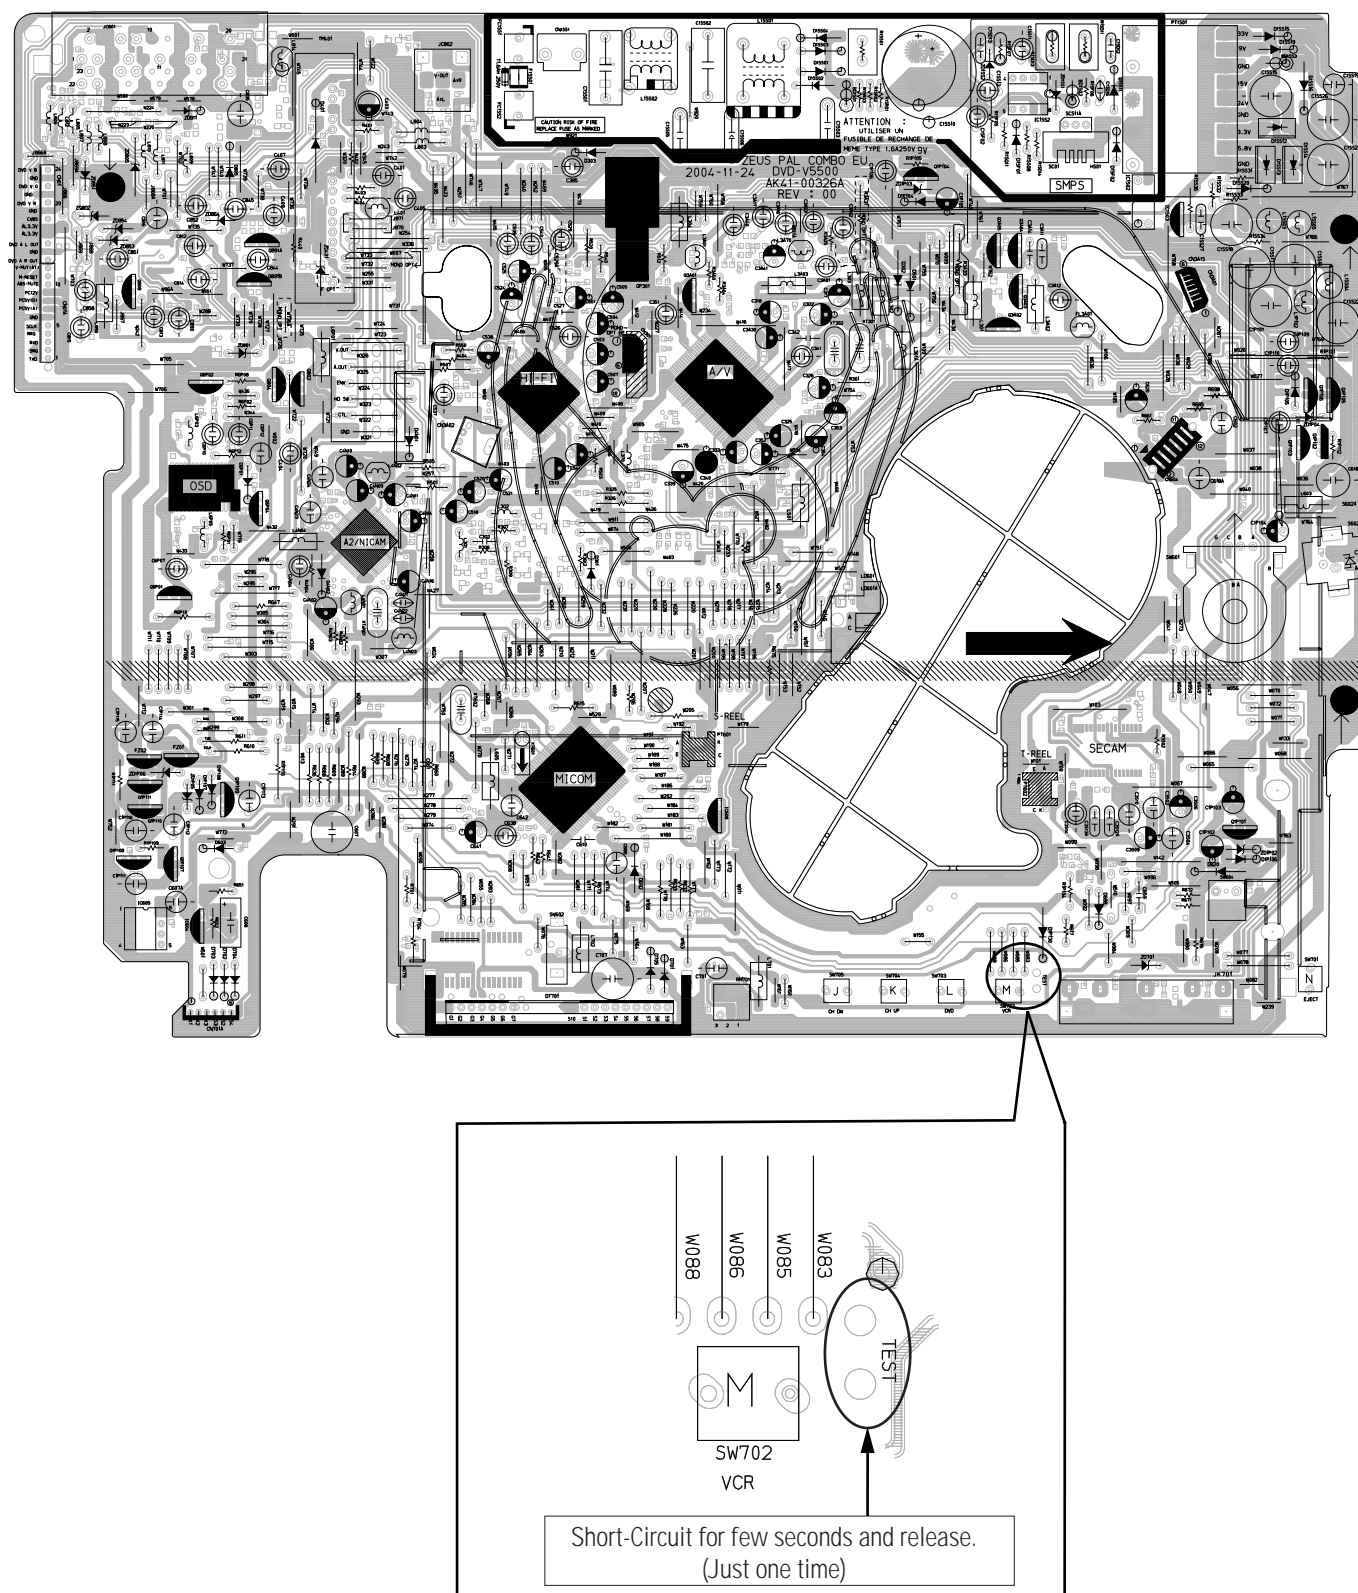

Fig. 3-2 VCR Main PCB (Top View)
- 2) Intermittently short-circuit the two Test Points on VCR Main PCB while setting the adjustment mode. (See Fig. 3-2)
- 1) Intermittently short-circuit the two Test Points on VCR Main PCB. (See Fig. 3-2)